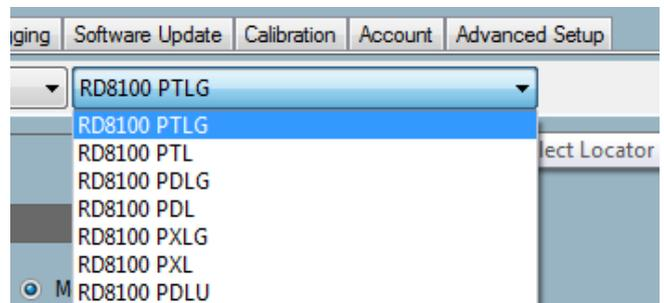

Figure 5.3: Model menu
- **Model Selector Menus:** Selects different locator models, figure 5.3 – available if no unit is connected